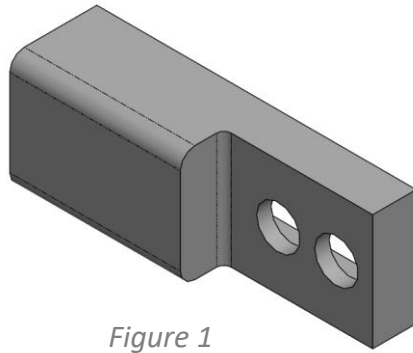
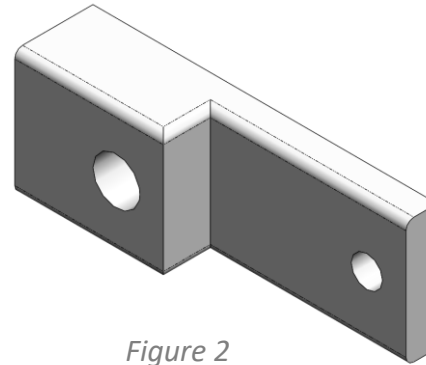

Figure 1
Figure 2
2. Examine the front lift side guide blocks. If the guide blocks match *Figure 1* below with the holes close to each other, **proceed to the next step**. If the guide blocks match *Figure 2* below with the holes spaced further apart, **contact ATC for assistance**.